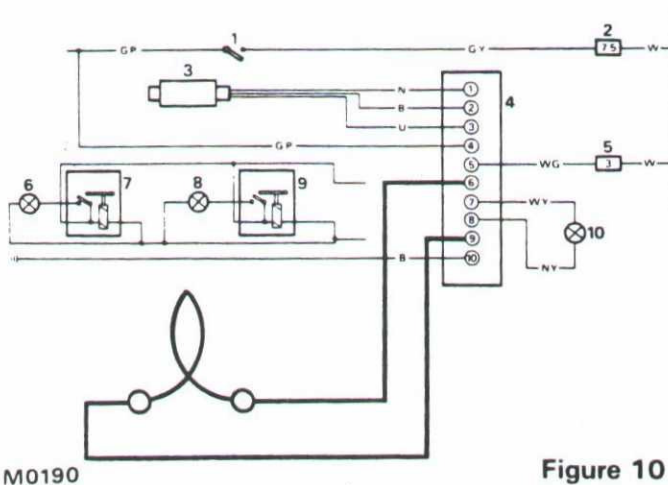

Figure 10
- 2 Connect a 12 volt test lamp across both terminals, see figure 10.